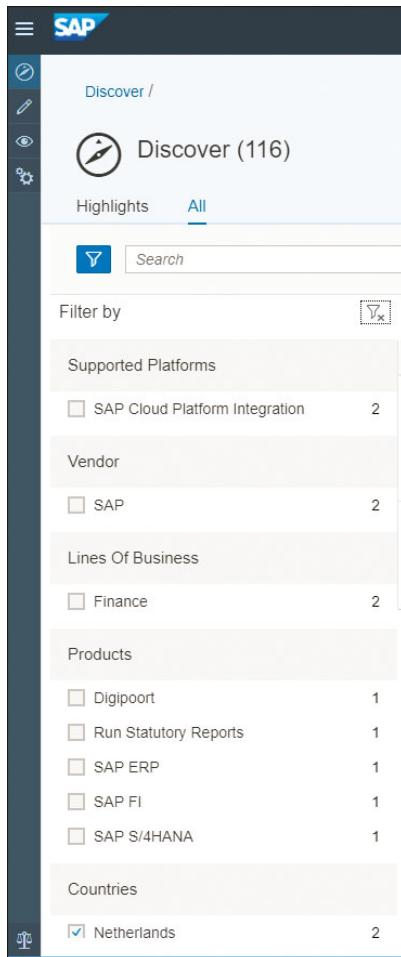

Figure 3.10 Filtering or Searching the Integration Content Catalog
3. In the Integration Content Catalog, you'll see a list of integration packages to choose from. By default, only the latest packages are listed. To view all existing packages, click on the **ALL** link on the top left of the page (see Figure 3.9). You then get a page similar to the one shown in Figure 3.10.
4. A new screen appears with a variety of filtering categories. You have the option to filter using categories such as **Supported Platforms, Vendor, Countries, Industries, Line of Business, Products, and Keywords** (Figure 3.10). Note that you can also perform a keyword search on this screen.